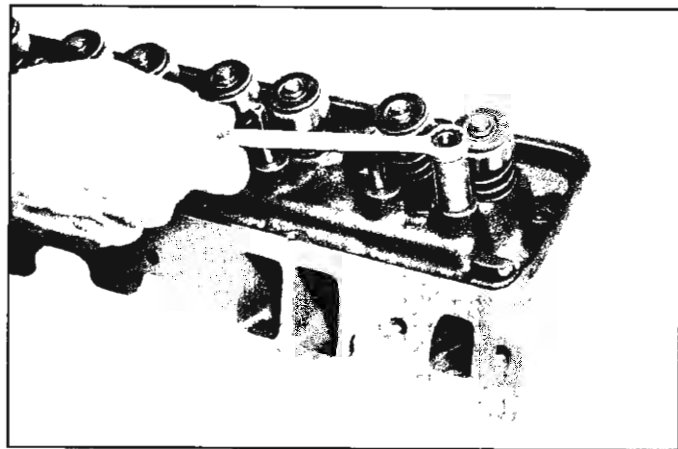

Fig. 67—Removing Valve Rocker Stud
1. Remove old stud by placing Tool J-5802-1 over the stud, installing nut and flat washer and removing stud by turning nut (fig. 67).